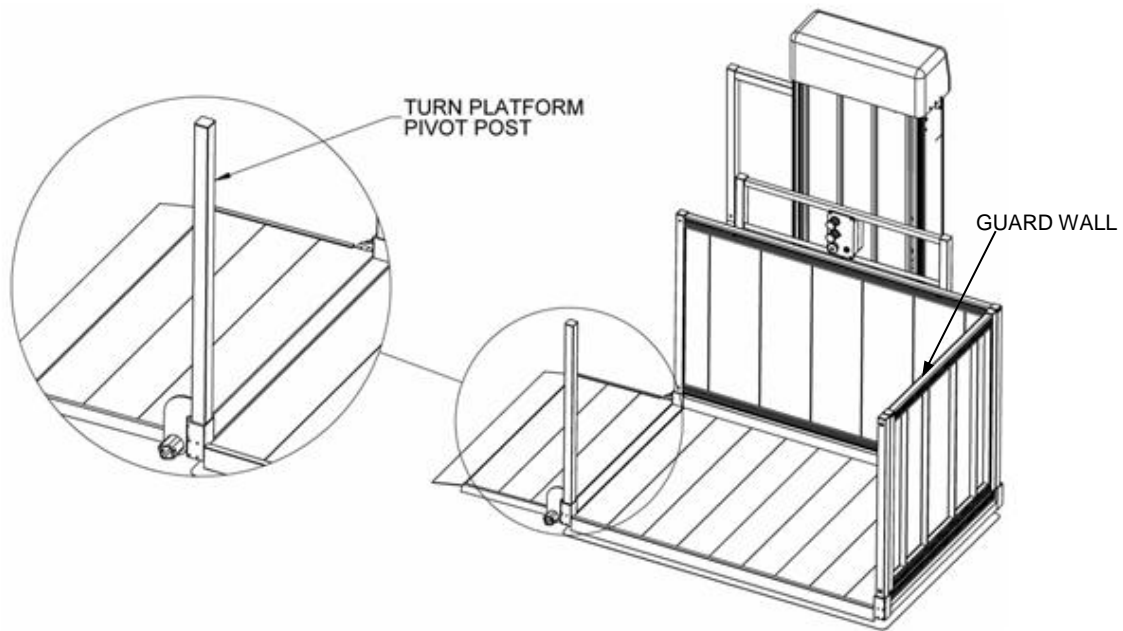

FIG. 17.1
17.1.1. The turn platform pivot Post (FIG. 17.1) is used when a top landing gate latch is mounted opposite the guard wall (FIG. 17.1).